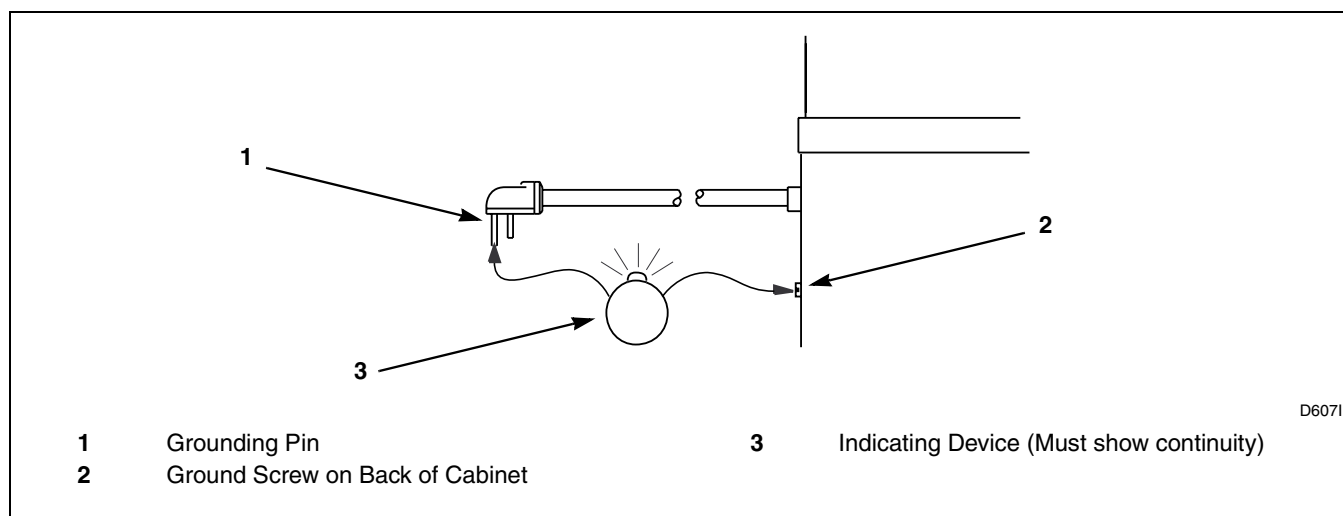

Figure 18
11. Check the continuity of the ground connection before plugging the cord into an outlet. Use an acceptable indicating device connected to the center grounding pin of the plug and the green screw on the back of the cabinet. Refer to *Figure 18*.